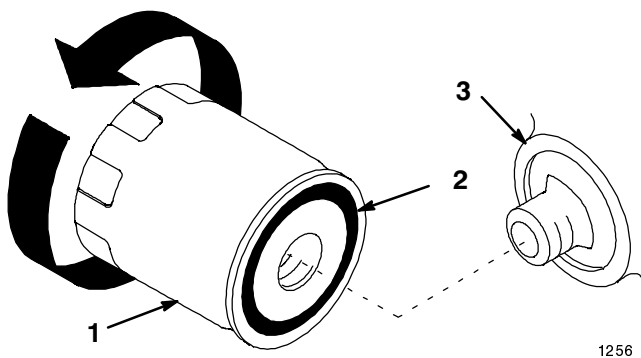

Figure 37
1. Remove the transaxle filter and wipe the filter adapter (Fig. 37) gasket surface.
2. Apply a thin coat of new oil to the rubber gasket on the replacement filter (Fig. 37).
3. Install the replacement transaxle filter to the filter adapter. Turn the filter clockwise until the rubber gasket contacts the filter adapter, then tighten the filter an additional 1/2 turn (Fig. 37).